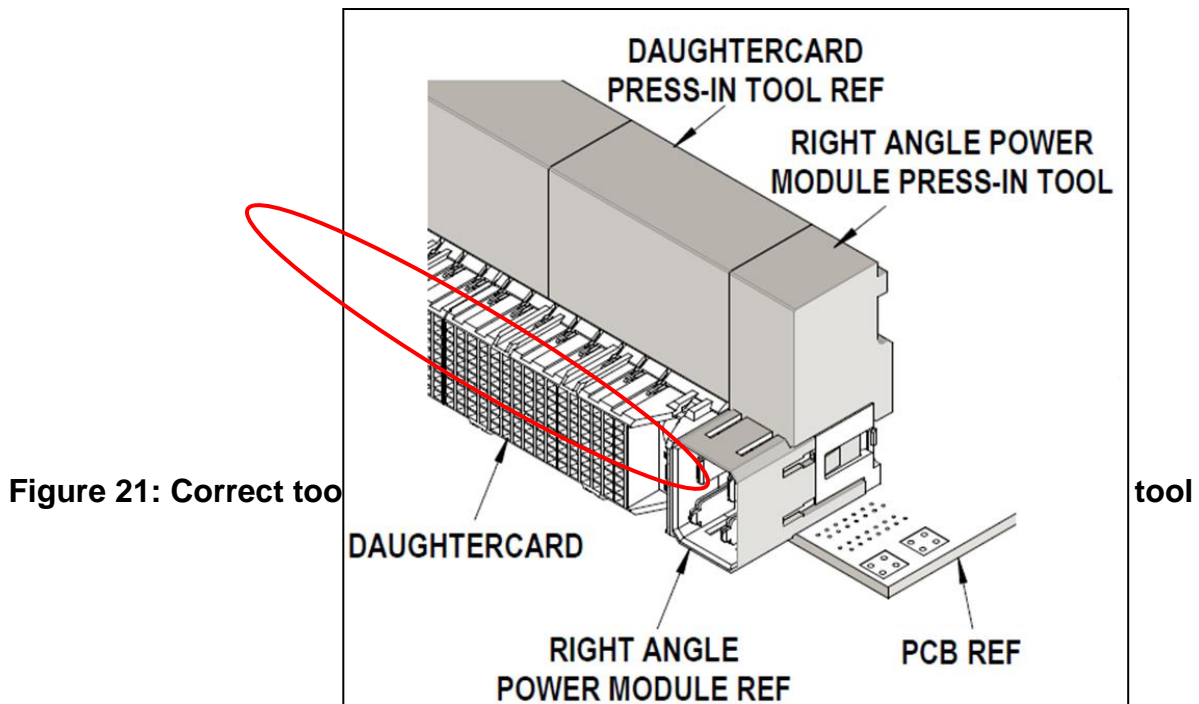

Figure 21: Correct tool
- ii. If using Flat Rock– Do not make contact with front housing (see Figure 21)